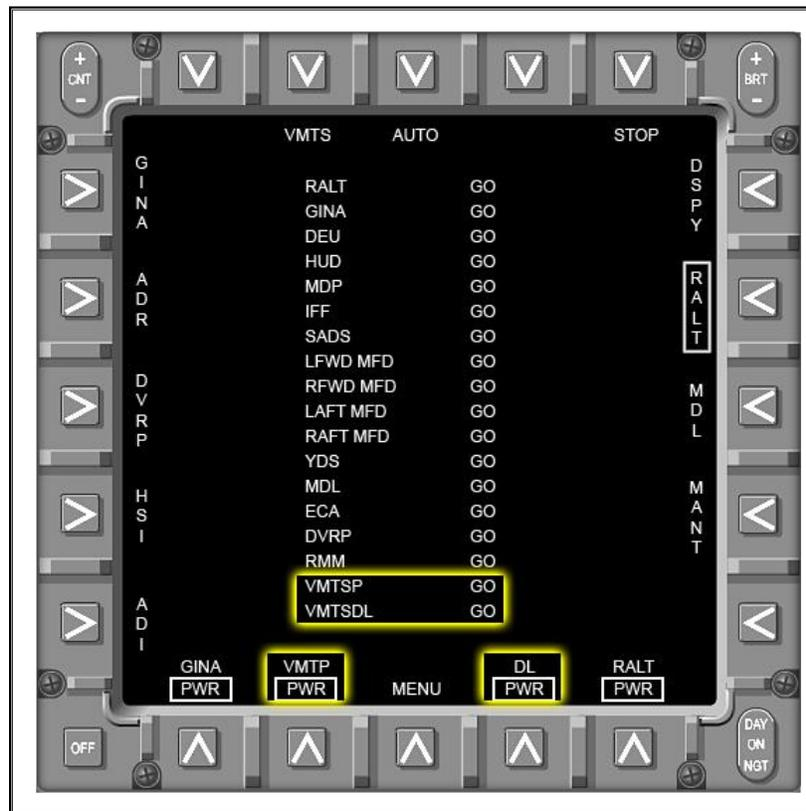

Figure 2-5 BIT Page, VMTS Power Controls, and BIT Status
- ii. “Box” PWR (PB 19) to power up VMTSP (Figure 2-5)